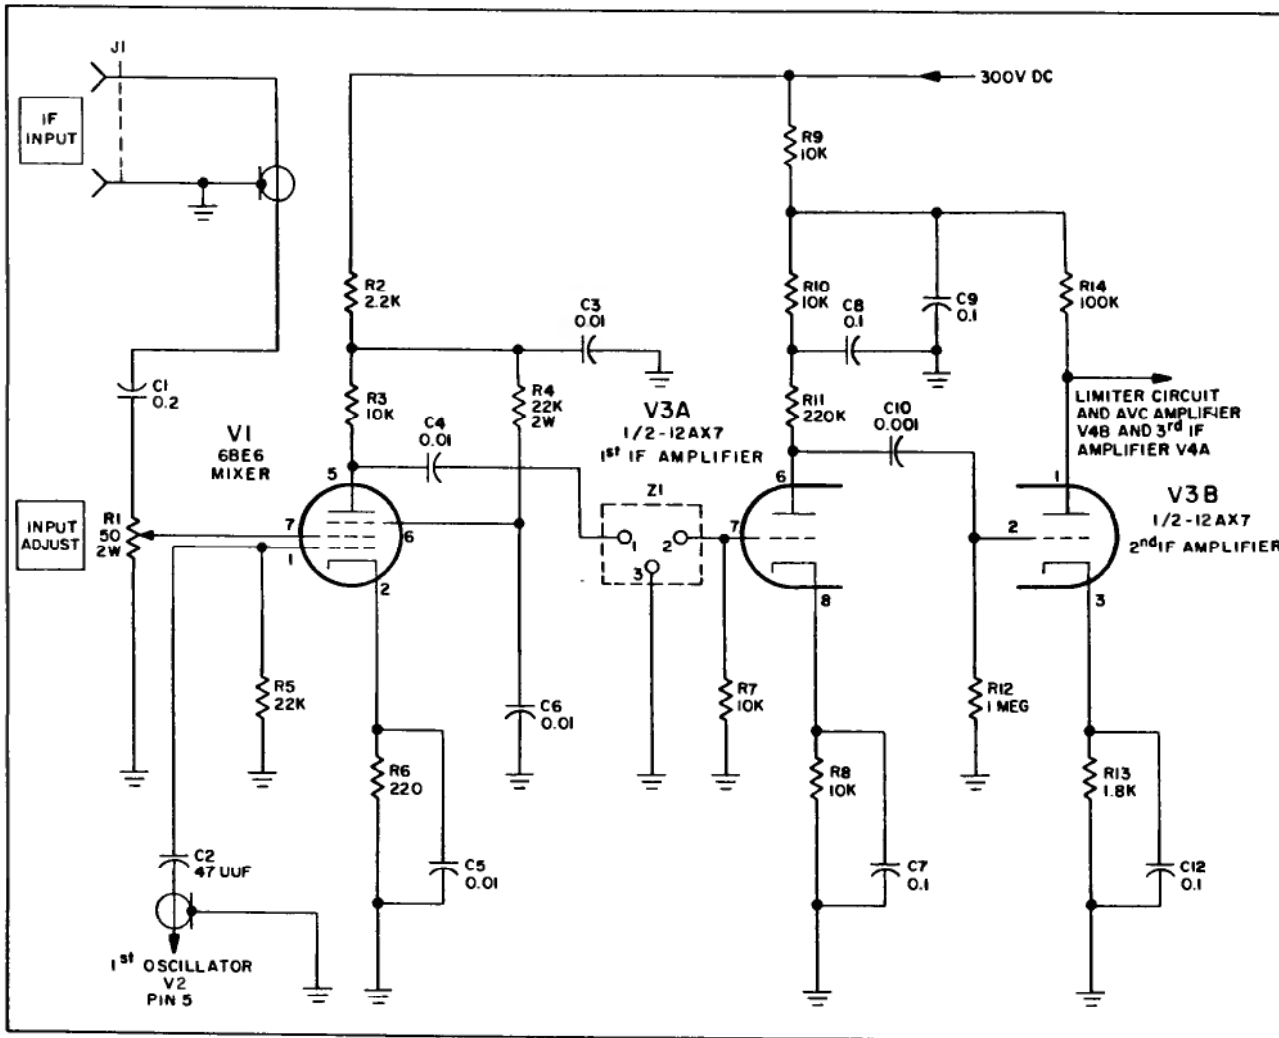

Figure 4-4. Mixer, 1st and 2nd IF Amplifiers, Simplified Schematic Diagram
provided, supported by simplified schematic diagrams (figures 4-4 through 4-9).
MXER V1, 1st and 2nd IF AMPLIFIERS V3a, V3b (figure 4-4).
- a. Simplified schematic diagrams (figures 4-4 through 4-9).